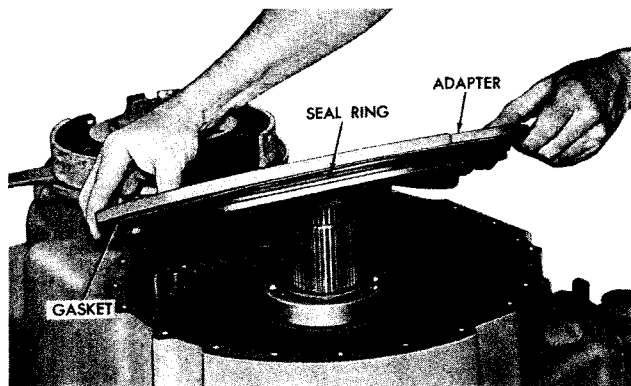

Fig. 7-7. Installing rear housing adapter (-1 model)
(5) Install the gasket and sealing on- to the rear housing adapter assembly. Install the adapter assembly (fig. 7-7).